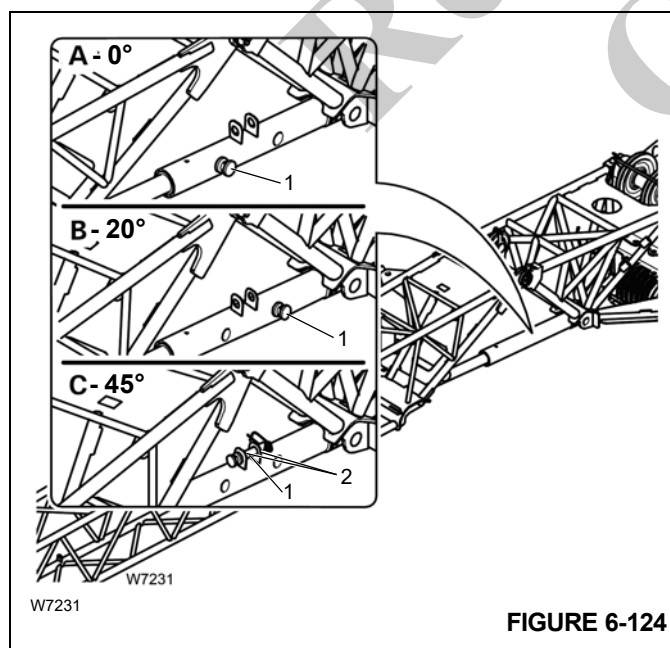

FIGURE 6-124
Refer to (Figure 6-124).
1. Lift the extension with the auxiliary crane until the pin (1), (Figure 6-124) is relieved of load.